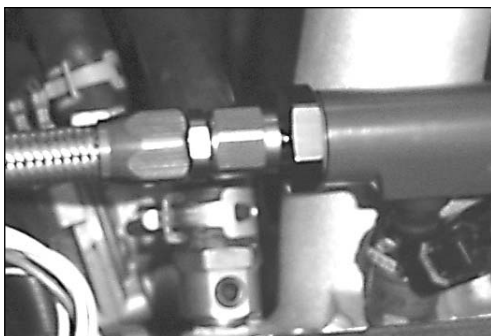

Figure 6 - Fuel Rail Inlet
- Install the -6AN straight fitting end of the fuel rail supply hose to the inlet side of the fuel rail **(See Fig. 6)**.